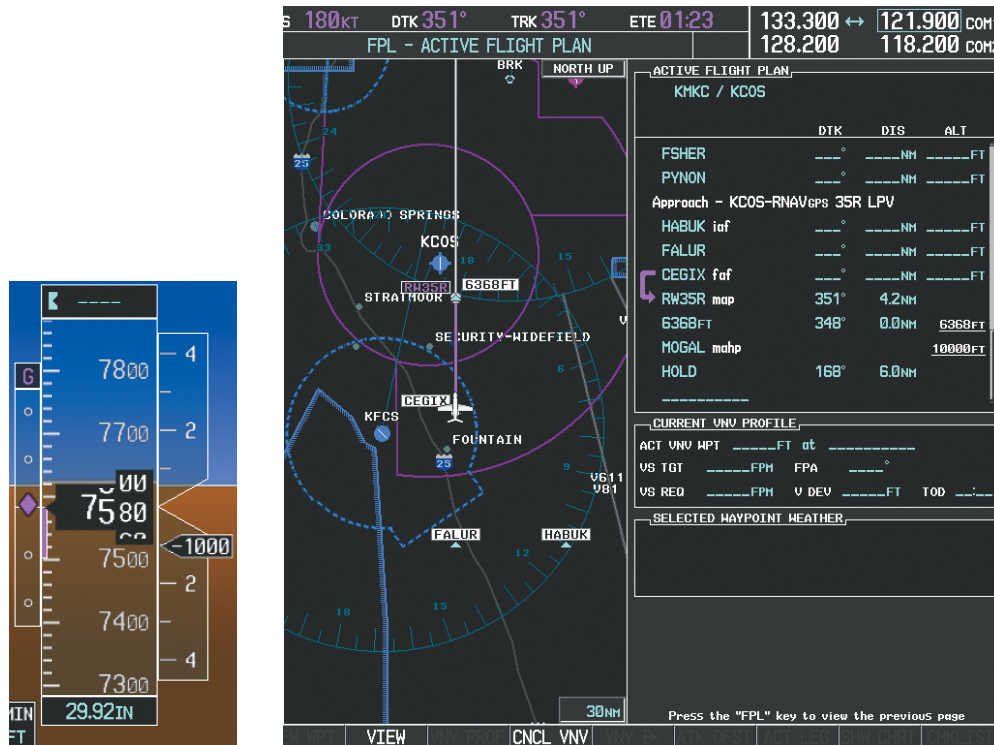

Figure 5-150 Descending to the Missed Approach Point
- 24) After crossing CEGIX, the aircraft continues following the glidepath to maintain the descent to “AT or ABOVE” 6,370 feet at the Missed Approach Point (MAP) (RW35R) as seen in Figure 5-150.